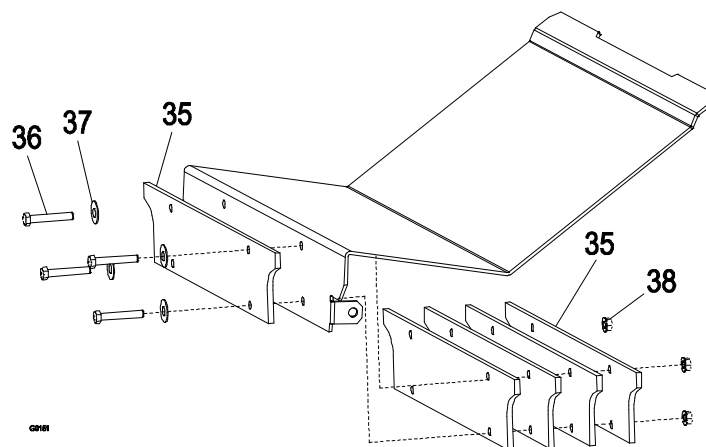

FIGURE 11
- 3.5.5 *For Lazer Z units without a ROPS:* Open the floor pan and install four weight plates (Item 35) behind the front panel and one weight plate (Item 35) in front of the panel using the 5/16-18 x 1.75 screws, 5/16 washers and 5/16-18 whizlock nuts (Items 36, 37, and 38). The weight plates will only fit with the ears located near the bend in the floor pan (See Figure 11). Apply the decal included in the literature pack to the center of the weight plate that was mounted to the top of the floor pan.